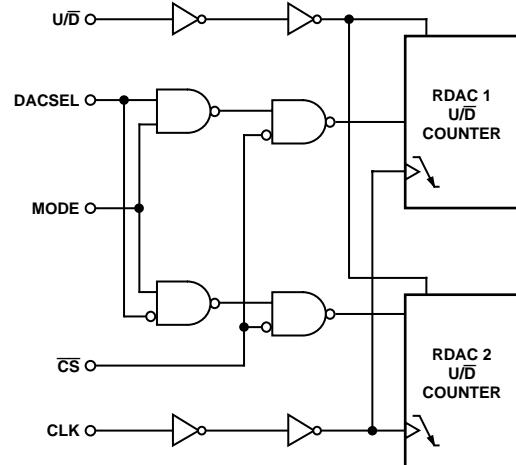

Figure 30. Detailed Digital Logic Interface Circuit
The AD5222 contains a push-button controllable interface. The active inputs are clock (CLK), CS and up/down (U/D). While the MODE, and DACSEL pins control common updates or individual updates. The negative-edge sensitive CLK input requires clean transitions to avoid clocking multiple pulses into the internal UP/DOWN counter register, Figure 30. Standard logic families work well. If mechanical switches are used for product evaluation a flip-flop or other suitable means should debounce them. When CS is taken active low, the clock begins to increment or decrement the internal up/down counter, dependent upon the state of the U/D control pin. The UP/DOWN counter value (D) starts at 40_H at system power ON. Each new CLK pulse will increment the value of the internal counter by 1 LSB until the full-scale value of 7F_H is reached, as long as the U/D pin is logic high. If the U/D pin is taken to logic low, the counter will count down, stopping at code 00_H (zero-scale). Additional clock pulses on the CLK pin are ignored when the wiper is at either the 00_H position or the 7F_H position. The detailed digital logic interface circuitry is shown in Figure 30.